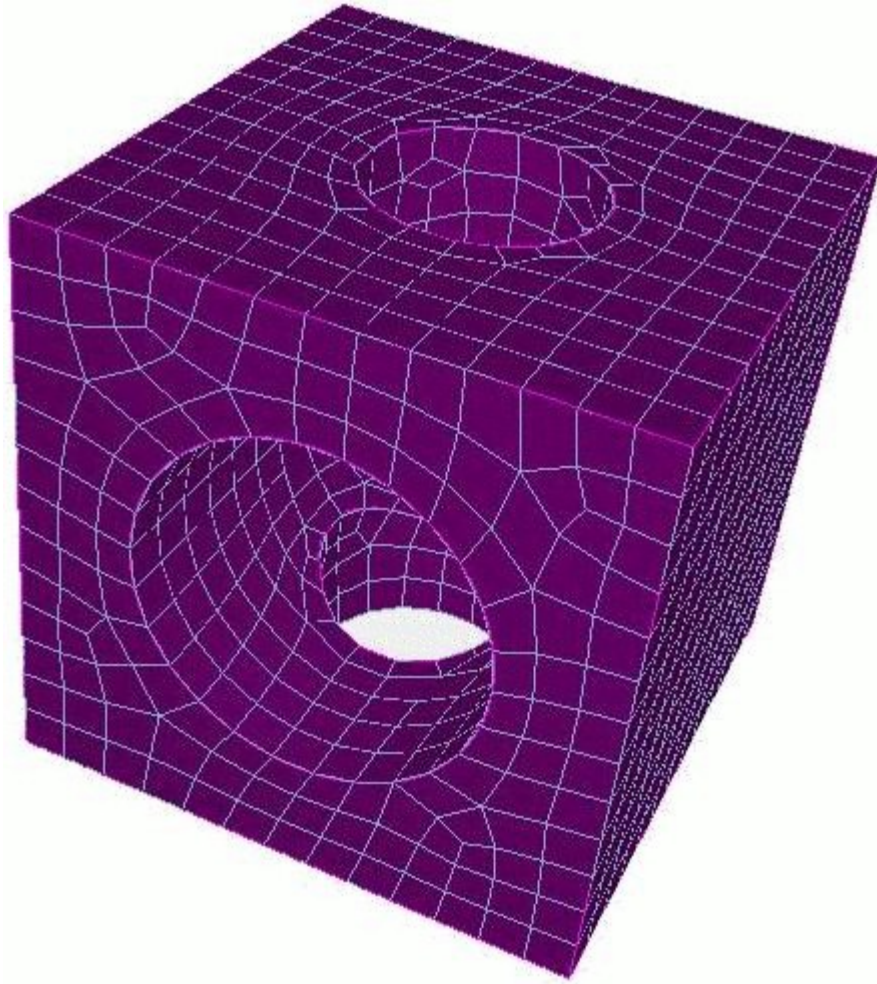

Figure 5: Final mesh after deleting unnecessary elements
Step 4: Final step. Figure 5 shows the final mesh after the mesh of the mesh of the two extra volumes is deleted. The commands are: